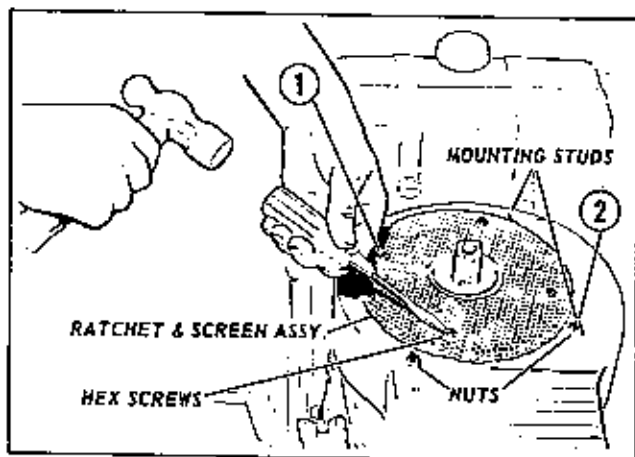

Figure 2
3. Remove the starter ratchet and screen assembly from the end of the engine crankshaft by gently rapping a screw driver against the hex screws #1, Fig. 2. This screen and ratchet assembly is removed in a counter-clockwise direction. Take out the four starter mounting studs #2, Fig. 2, by removing the nuts from the studs. Thread the flywheel nut "CC" (refer to the exploded-view on page 6) over the end of the crankshaft in place of the ratchet assembly.